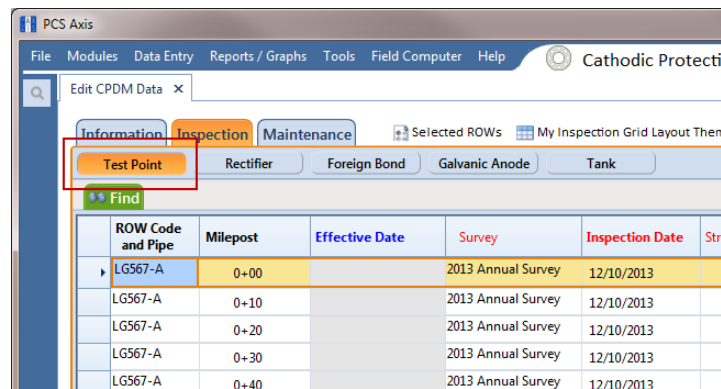

Figure 7-64. Test Point Tab
- 3 Open the *Inspection* grid for a facility type. For example, click the **Inspection** tab and then a facility type button, such as **Test Point** (Figure 7-64).